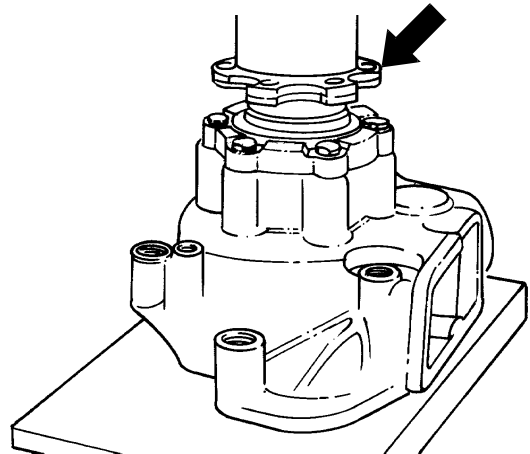

Figure 97 - Pulley Mounting Flange - Installation
- j. Press the pulley mounting flange onto the coolant pump (Fig 97).